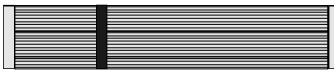

Figure 1-2 Standard Floppy cable
- ❑ One 34-pin floppy disk drive ribbon cable (Figure 1-2)